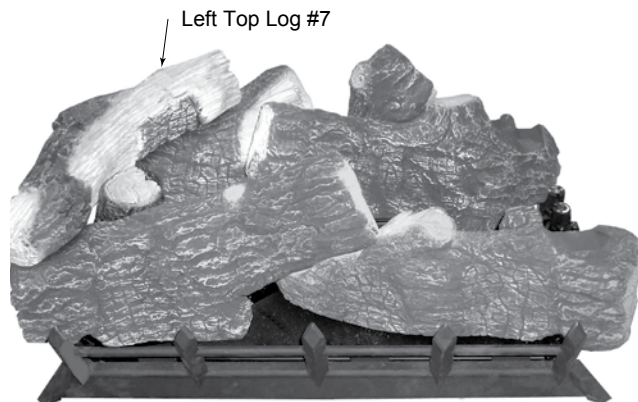

Figure 6.9 - Log #7 Placement
7. Place left top log (#7) on left rear log (#4) and left front log (#5) using locating grooves on bottom of #7 and locating blocks on logs #4 and #5. See Figure 6.9.